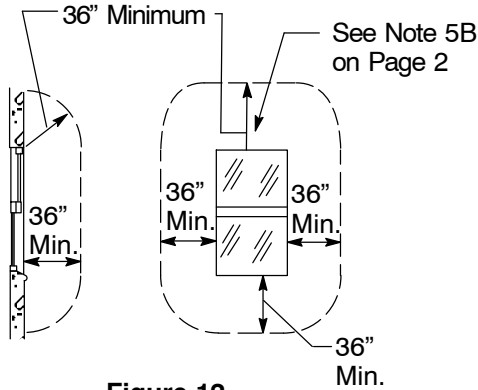

Figure 12
- B. The clearance of wires from exits, doors, windows, fire escapes, and other openings shall have a radial clearance from the boundaries of such openings of not less than 3 feet. This clearance is illustrated in Figure 12 and Figure 13 on Page 7.